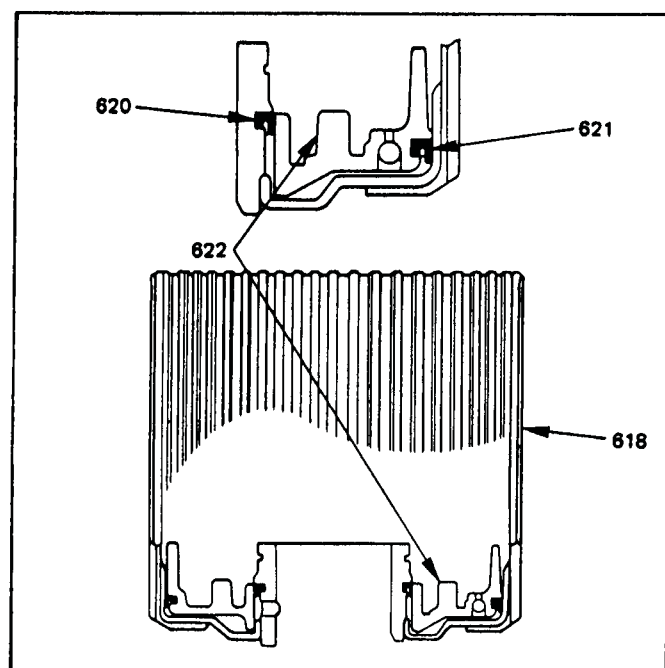

Figure 79
2. Install new inner lip seal into the 2nd clutch housing, with lip facing down, as shown in Figure 79.
3. Install new outer lip seal onto the 2nd clutch piston with lip facing down, as shown in Figure 79.